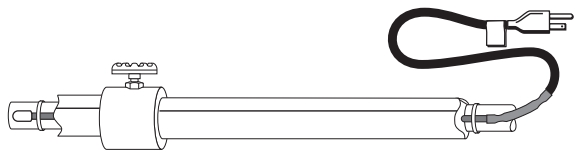

Figure 3. Insulation
- Ensure that at least 1/2" of preformed foam or equivalent thermal insulation is used and that all piping, including valves, joints, and wall penetrations, has been fully insulated as shown in Figure 3.